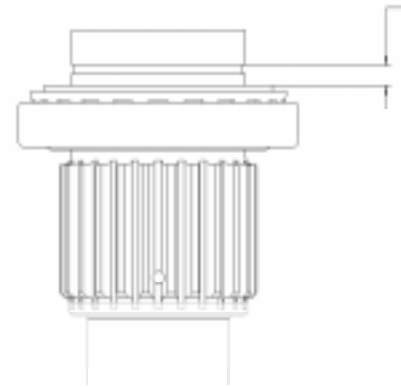

Figure 7.
20 Measure from the top face of the bearing-cone (18), to the outer wall of the retaining ring groove. This measurement minus the snap ring (23) and washer (26) thickness equals the shim thickness needed, see figure 7.